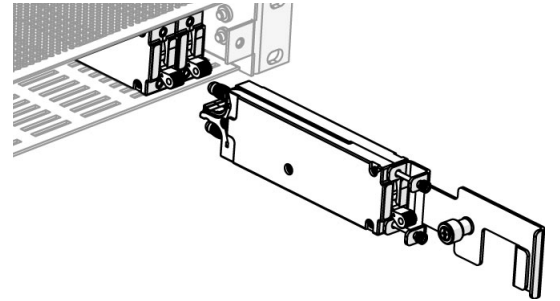

Figure 20. Breaker Removal
- Step 4.** Pull the breaker straight out from the front of the panel (see Figure 20).